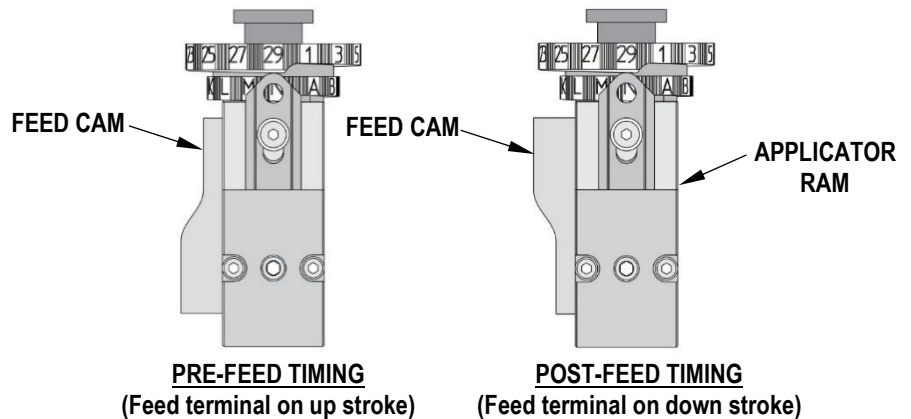

Figure 4.10.1
2. Determine what feed timing is required. See Figure 4.10.1.